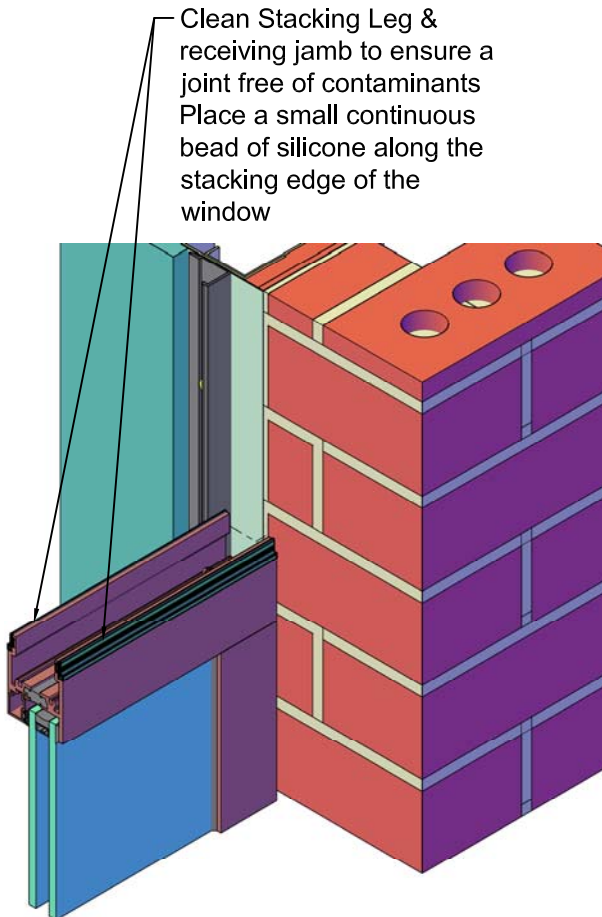

Fig. 8
7) Install the bottom window unit per the appropriate trim installation instructions. Clean the window units head (bottom unit) & sill (top unit) to remove any dust and oils from handling. Apply a small bead of silicone to the "male" stacking leg on the exterior and the units's interior side. Position the second window unit in place. See Fig. 8